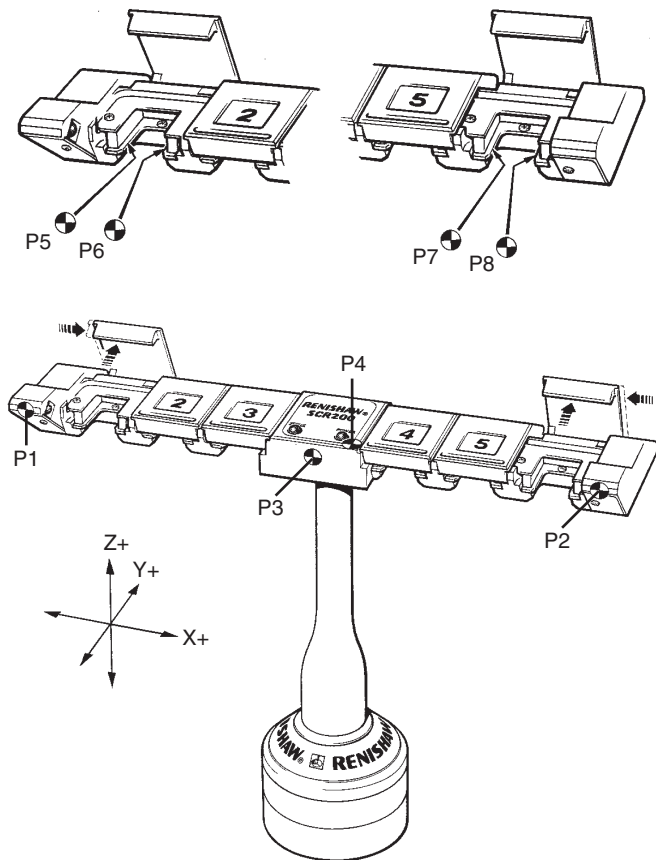

Figure 15 - Datuming the SCR200 rack
- Take points P1 and P2 (see figure 15).
The following instructions assume uncompensated probing points are taken. Therefore, the target positions for stylus module changing are given in absolute machine coordinates. The X, Y, Z axis system refers to the rack axes indicated in figure 15.
7.3.1 Establishing the docking depth (Y)
- Take point P3 (see figure 15).
7.3.2 Establishing the docking height (Z)
- Take point P4 on the top face (see figure 15), ensuring that the point is not taken on the label.
- See figure 15.